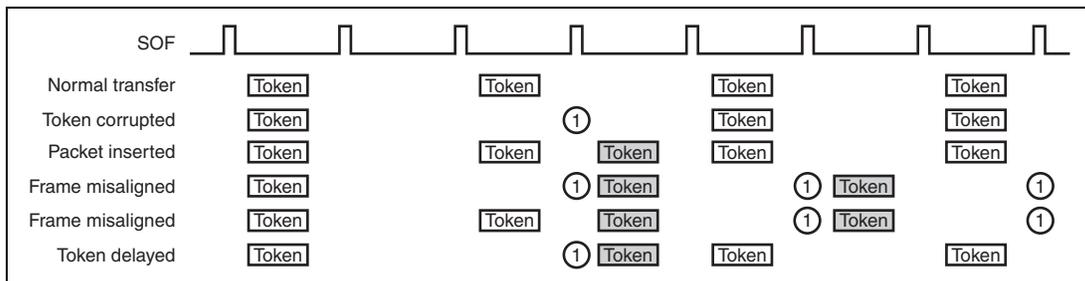

Figure 14.13 Example of an Interval Error Being Generated when IITV = 1
Figure 14.13 shows an example of this module generating an interval error. There are five types of interval errors, as shown below. The interval error is generated at the timing indicated by (1) in the figure, and the buffer flush function is activated.